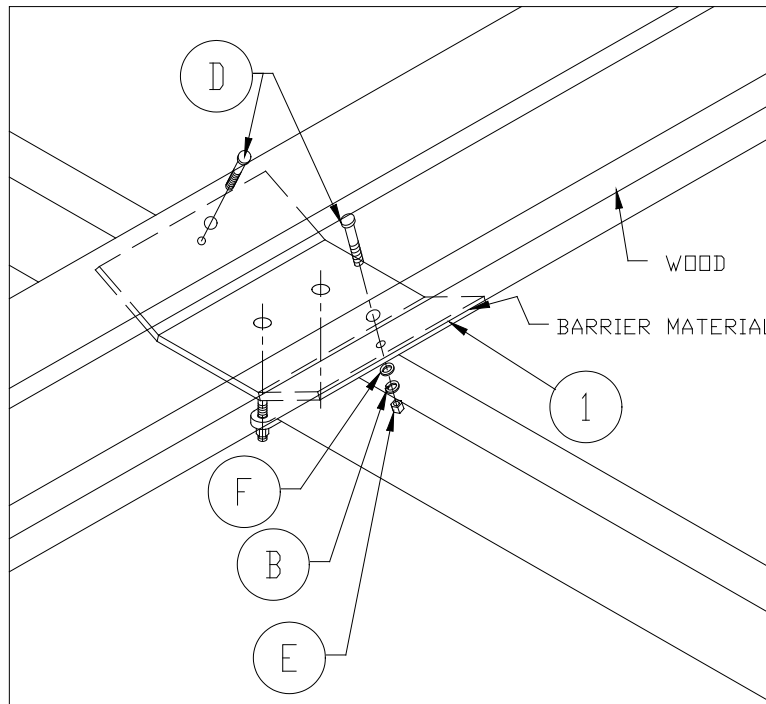

Figure 2-3.
1. **Refer to Figure 2-3.** Place two of the 2" x 6" x 16' pressure treated wood into each pair of Mounting Plates. Ensure that the ends of the wood are even with one another.